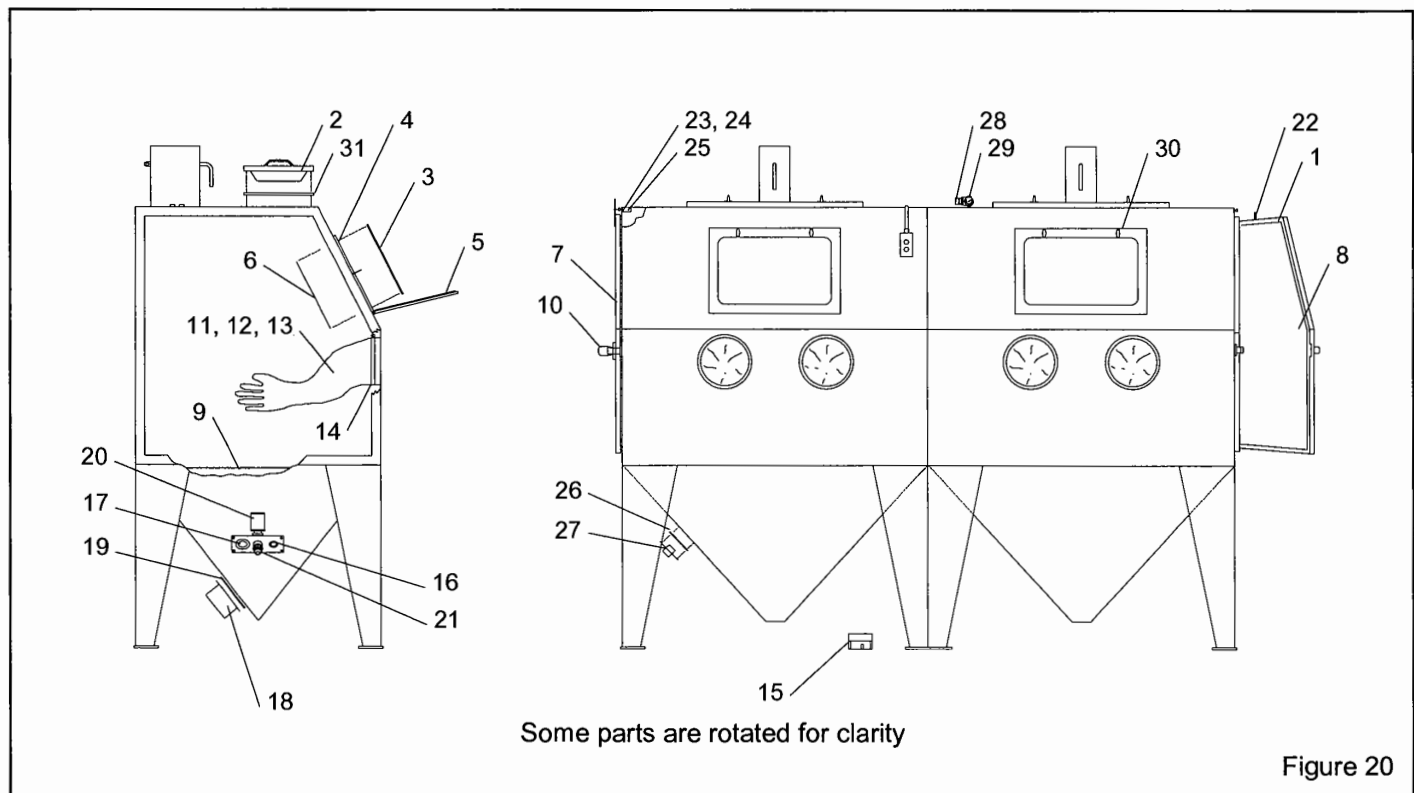

Figure 20
9.2 Cabinet Replacement Parts, Figure 20